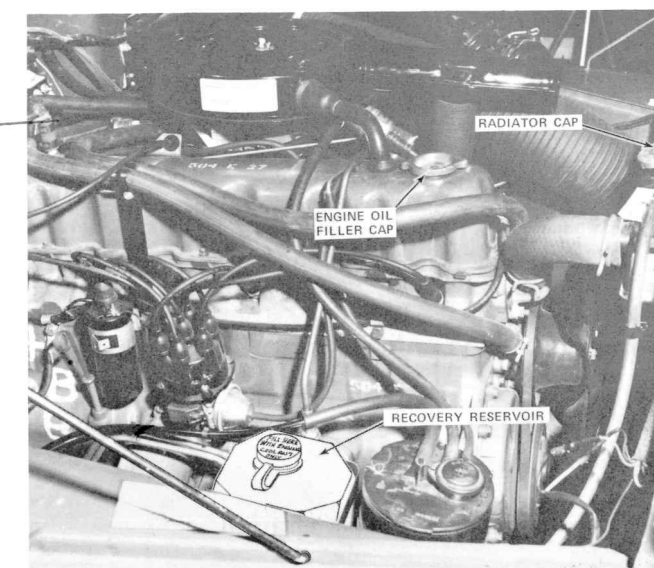

Figure 23. Radiator Cap, Recovery Reservoir, and Oil Filler Cap
**COOLANT LEVEL:** Check coolant level on side of recovery reservoir (fig. 23) and add fluid to reservoir if required. **DO NOT ADD AT RADIATOR.** When filling an empty coolant system, fill radiator completely and reservoir to "COLD" level. Run engine and adjust level to make sure fluid is at "COLD" line.